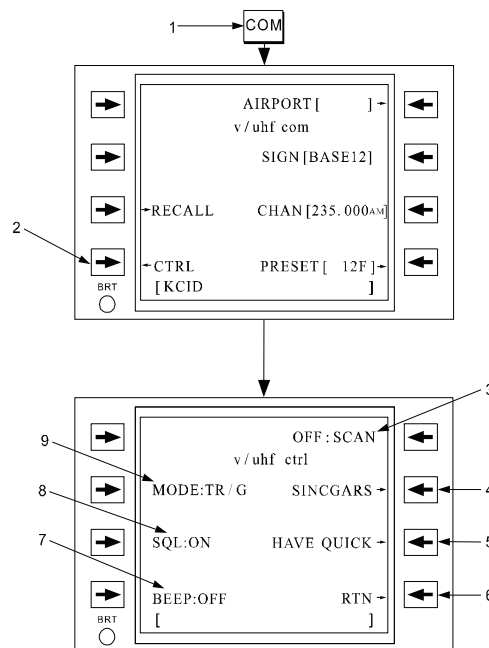

Figure 3B-123. V/UHF Control Functions
(f) *V/UHF Radio Mode Selection.* To select the V/UHF radio mode, toggle the **MODE** line select key on the V/UHF control page Figure 3B-123 and Table 3B-86. The possible selections are: Transmit/Receive (TR), transmit/receive with the independent guard receiver activated (TR/G), UHF guard (GD243), and VHF guard (GD121). In UHF guard mode, the FMS-800 tunes the V/UHF transmitter/receiver to 243.000 MHz and deactivates the independent guard receiver. In VHF guard mode, the FMS-800 tunes the V/UHF transmitter/receiver to 121.500 MHz and deactivates the independent guard receiver. When in either of the guard modes, the Communication page displays the guard frequencies and GUARD for the callsign.